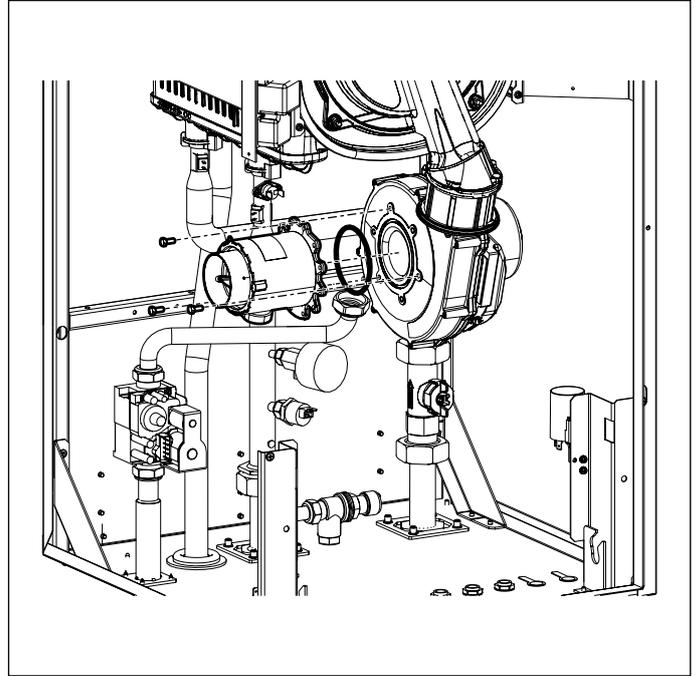

Fig. 33 Mixer
- Loosen the three socket head screws, and remove the mixer (see Fig. 33 Mixer).
- Refit the reassembled mixer onto the fan with the socket head screws, making sure to insert the O-ring between mixer and fan (see Fig. 33 Mixer).